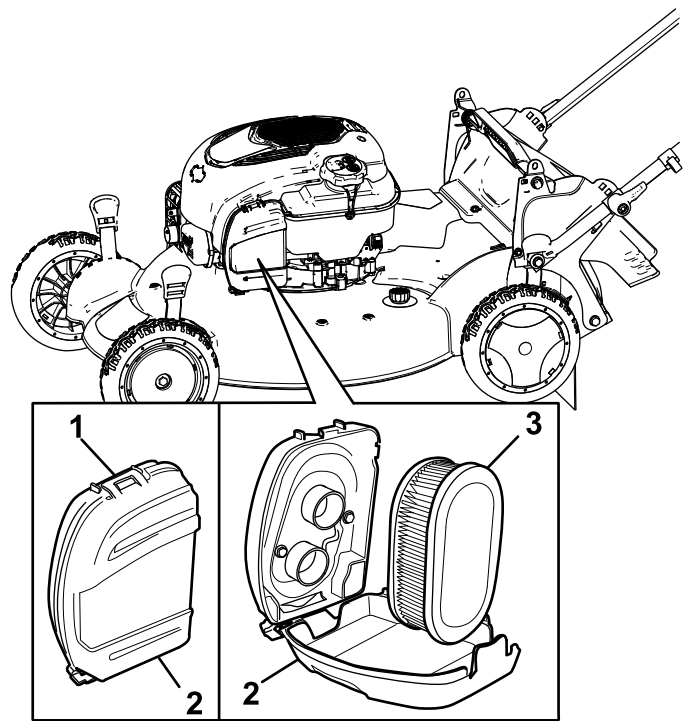

Figure 32
- 1. Unclip the top of the air-filter cover (Figure 32).
- 2. Remove the air filter (Figure 32).